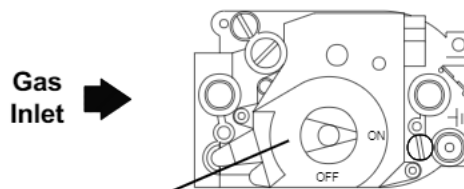

Figure 20. ← Gas control knob shown in "ON" position.
7. Wait five (5) minutes to clear out any gas. If you then smell gas, **STOP!** Follow "B" in the safety information above. If you don't smell gas, go to the next step.
8. Turn gas control knob counterclockwise  to "ON". See Figure 20.